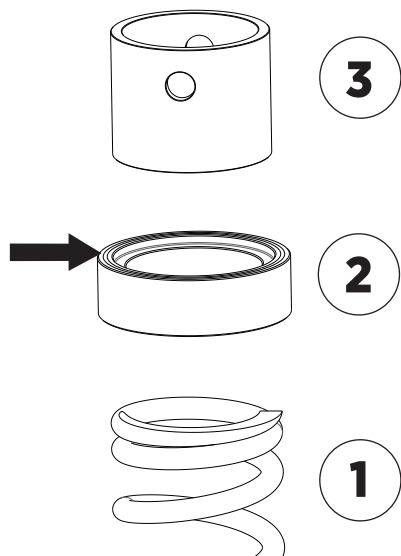

Fig. 11: Install spring and spring hardware in numbered order above; note groove orientation on the spring retainer (arrow).
- Install the main spring, the spring retainer, and preload spacer in the order shown (Fig. 11). Make sure the groove on the spring retainer faces the preload spacer (Fig. 11 arrow).